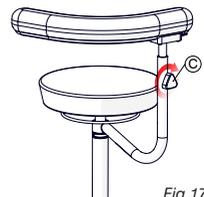

Fig.17
- Turn the Knob **A** (Fig.17) until it locks the arm.